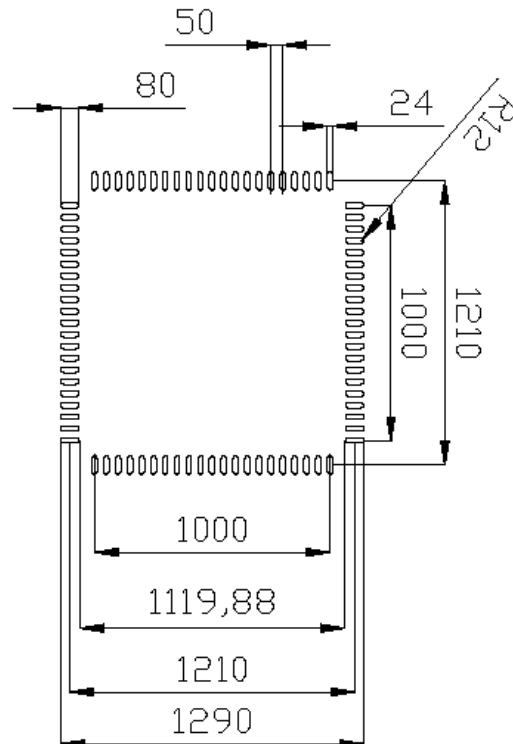

FIGURE 4: PCB BOARD LAYOUT
1. Pad definition will be according to Figure 4.